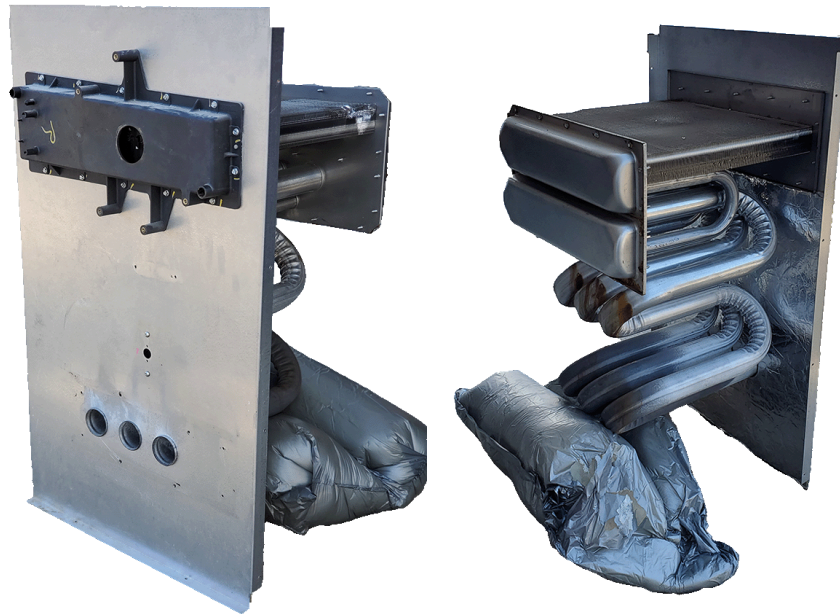

Figure 15 High-efficiency heat exchanger (front and back). (Adapted from Skilled Trades BC, 2021) Used with permission.
- High-efficiency gas furnaces have a secondary heat exchanger to absorb as much heat as possible from the products of combustion and, thus, release flue gas condensate that must be drained to a safe location (Figure 15).